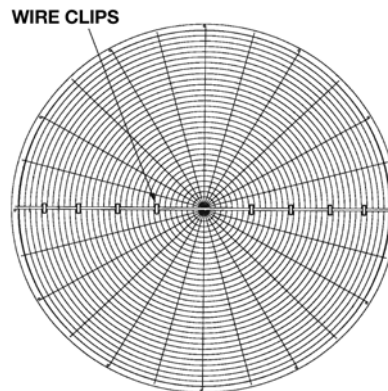
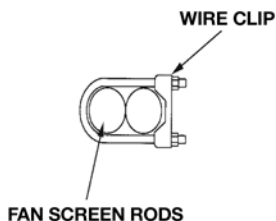

Figure 11 – Wire Clip Spacing
Figure 10 – Wire Clip Arrangement
1. Lay both halves of the fan screen on the ground. Join the two screen halves with wire clips (Figure 10). There should be 4 wire clips on each side of the fan screen for 12' wide units. Space the wire clips evenly across the radius of the fan screen as shown in Figure 11.